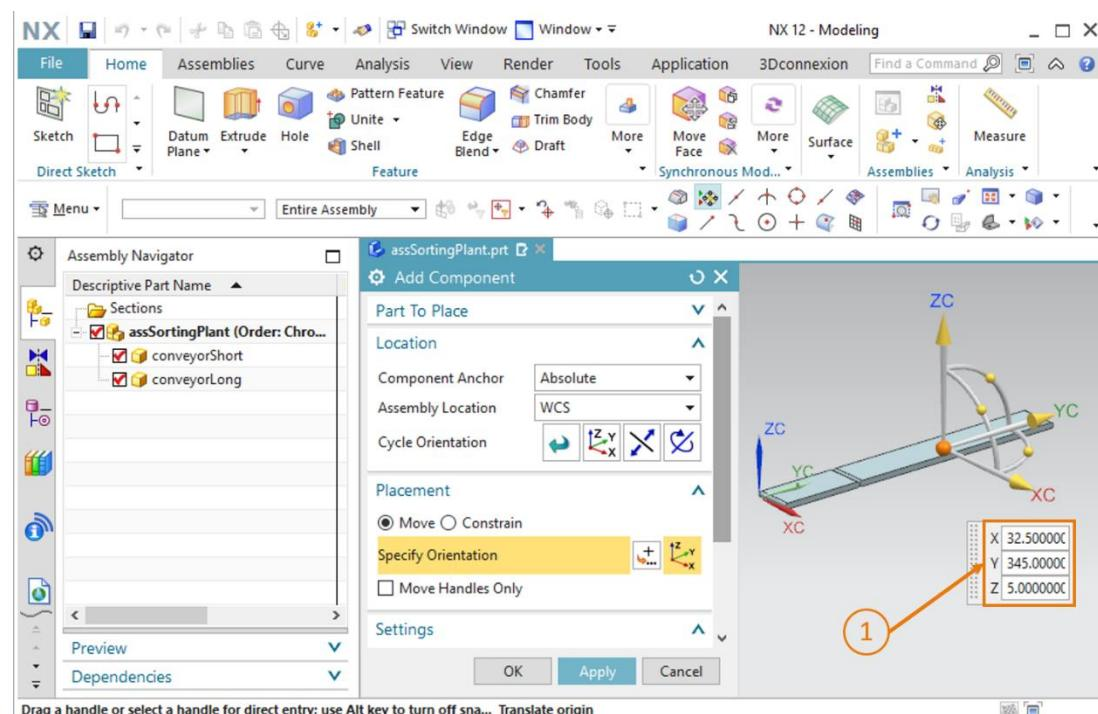

Figure 57: Positioning the "conveyorLong" model in the assembly
- For the "Placement" of the long conveyor belt, specify the following coordinates, as shown in Figure 57, step 1: